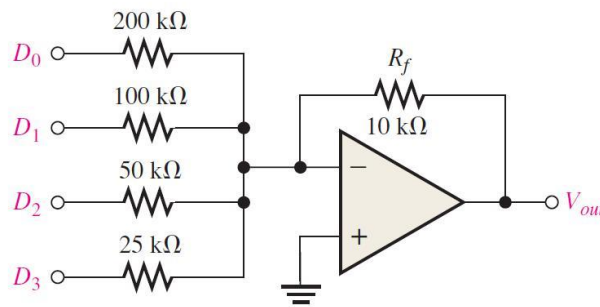

FIGURE 2.5 4-bit Binary-Weighted-Input Digital-to-Analog Converter
2. Construct the 4-bit Binary-Weighted-Input DAC as in figure2.5 using LM741